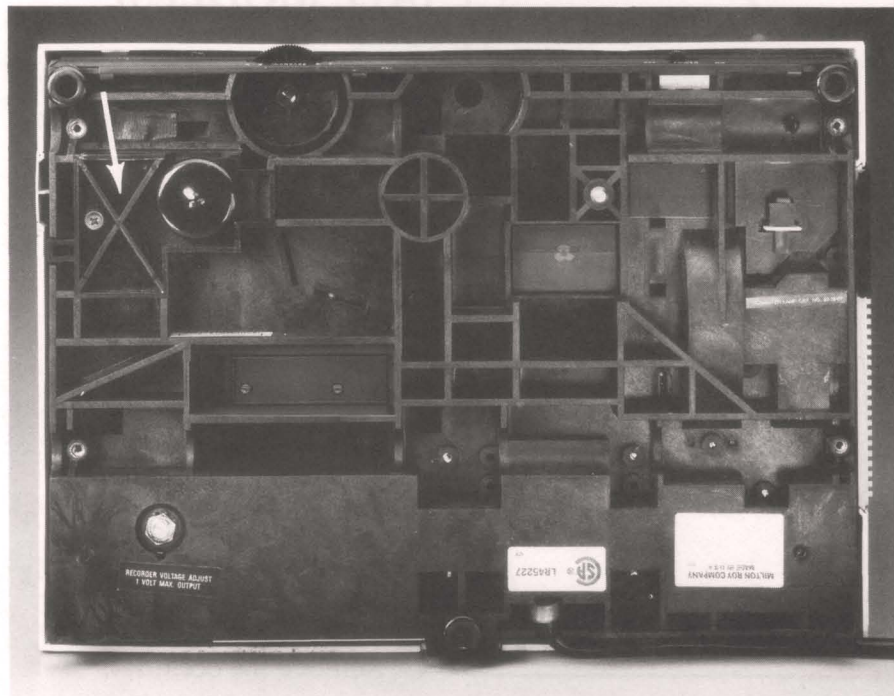

FIGURE 14.
3. Remove the detector access plate (shown in Figure 14) by removing the holding screw and lifting the tab on the left.